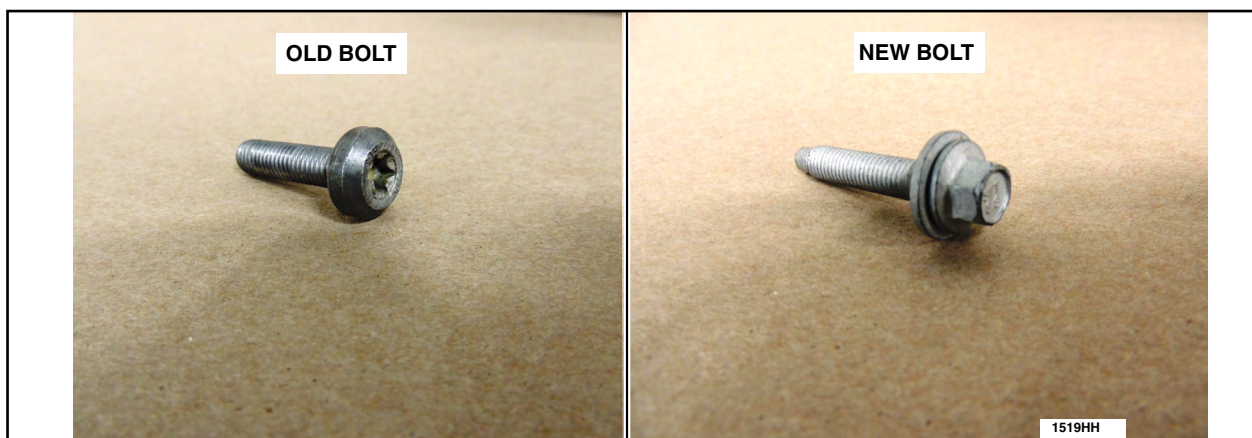

FIGURE 9
**NOTE:** This repair involves the replacement of the three steering gear motor to steering gear housing bolts. See Figures 9, 10, 11, 12 and 13. In-stock vehicles do not require installation of new bolts because they did not have time to accumulate corrosion.